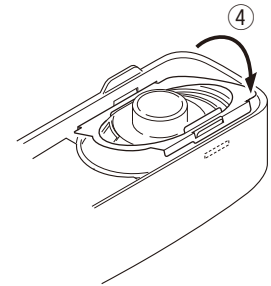

Fig. 7-3 / 图 7-3
6. Insert the hardware fixture (J21-8481-03) into the hollow of the panel as shown in Figure 7-3, then push two parts of the hardware fixture and fit it into the hollow of the top of the panel. (Fig. 7-3 ④)
6. 如图 7-3 所示，将硬件夹具 (J21-8481-03) 插入面板凹槽，然后推动硬件夹具的两个部分并将其卡入面板顶部的凹槽。(图 7-3 ④)